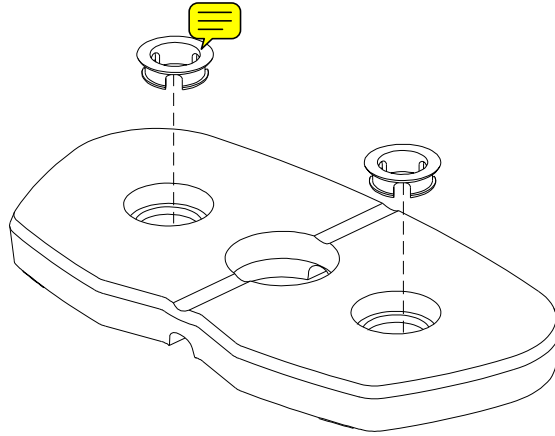

**FIGURE 3**
- **SECURELY** assemble the FRONT FRAME (E) to the BASE PLATES (B) using two 3/8 X 3-3/4" BOLTS (11) and two 3/8" LOCK NUTS (28) as shown in FIGURE 3.